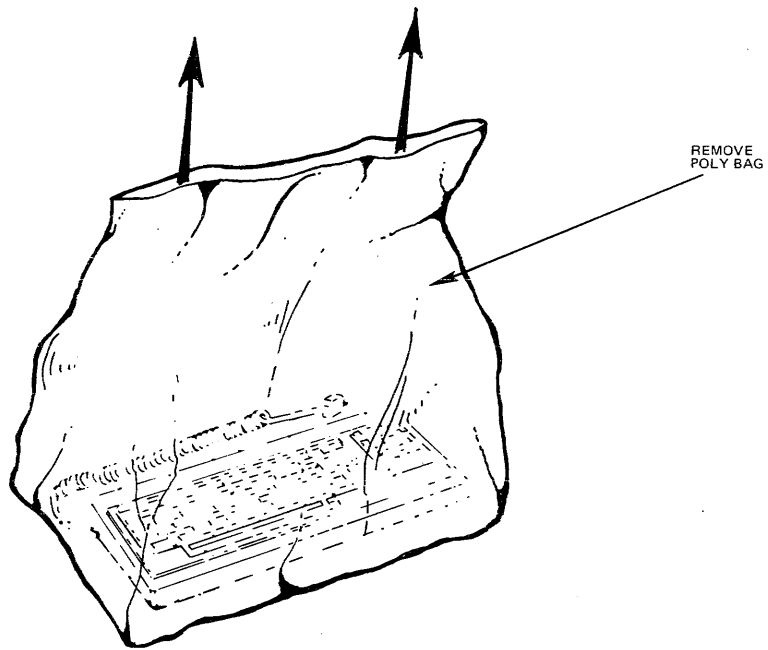

Figure 2-2. Removing Keyboard from Poly Bag
4. Untape the poly bag and carefully remove the keyboard and its cord from the poly bag (see Figure 2-2).